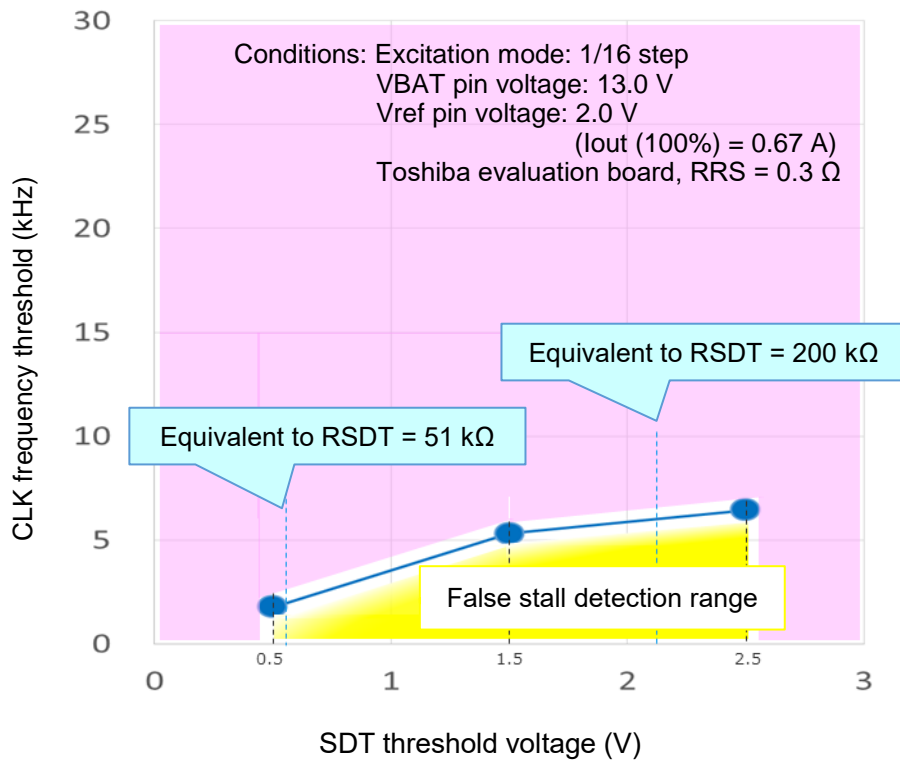

Figure 18. SDT threshold voltage vs. CLK frequency threshold (for reference)
- As shown in Figure 18, the result is as follows: